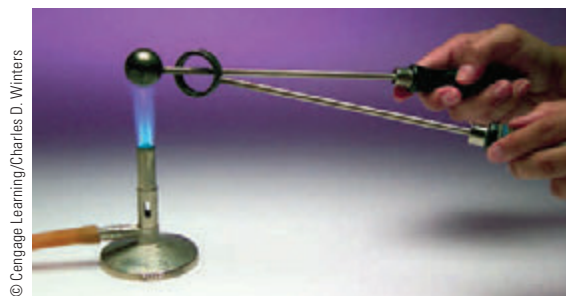

Figure CQ19.8
8. When the metal ring and metal sphere in Figure CQ19.8 are both at room temperature, the sphere can barely be passed through the ring. (a) After the sphere is warmed in a flame, it cannot be passed through the ring. Explain. (b) **What If?** What if the ring is warmed and the sphere is left at room temperature? Does the sphere pass through the ring?